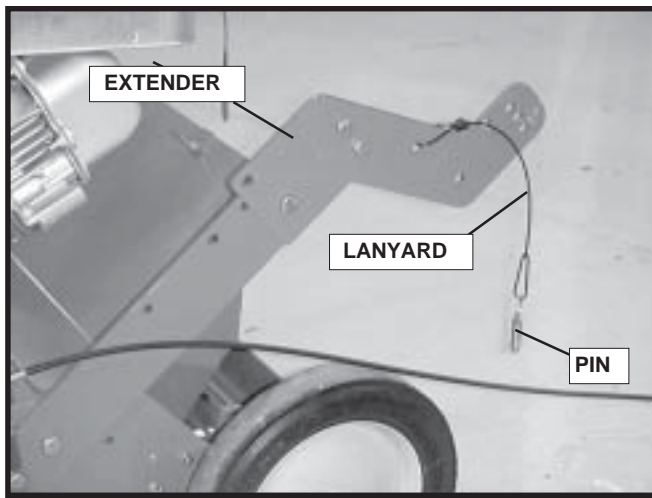

FIGURE 6
- Install two extenders on the outside of the lower handle assembly. Attach the lanyards with pins to the extenders as shown in Figure 6.